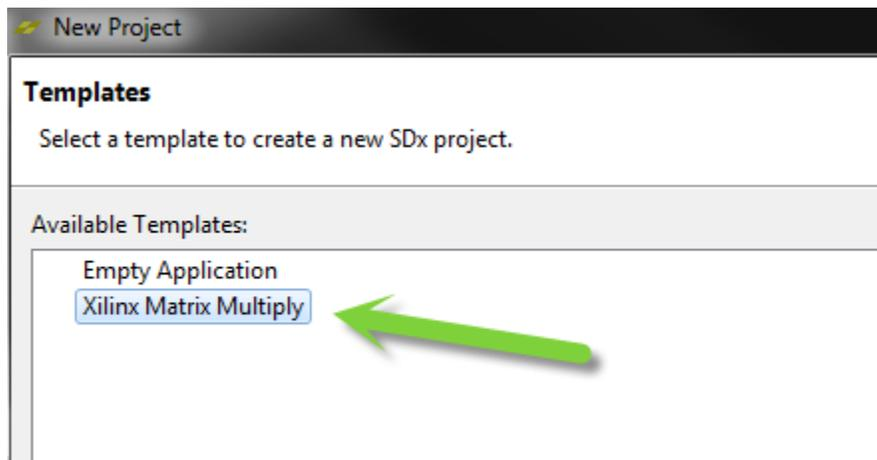

Figure 15 – Example Selection
16. Select the provided Xilinx Matrix Multiply example as shown in Figure 15